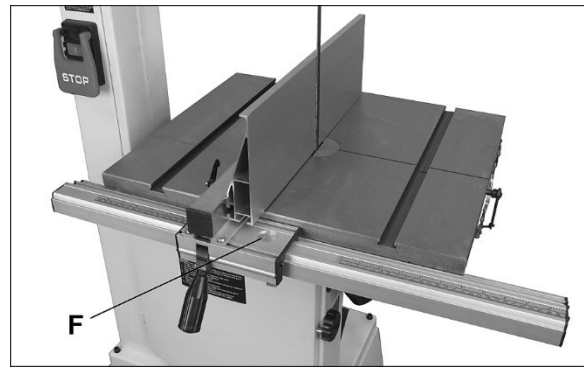

Figure 5-20
- Move fence against blade (do not deflect blade by pushing into it). See Figure 5-20.
- With fence against blade, verify that cursor (F, Figure 5-20) aligns with zero on scale.